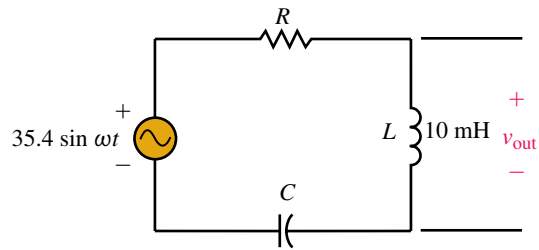

FIGURE 21-57
- 13. Consider the circuit of Figure 21-57.